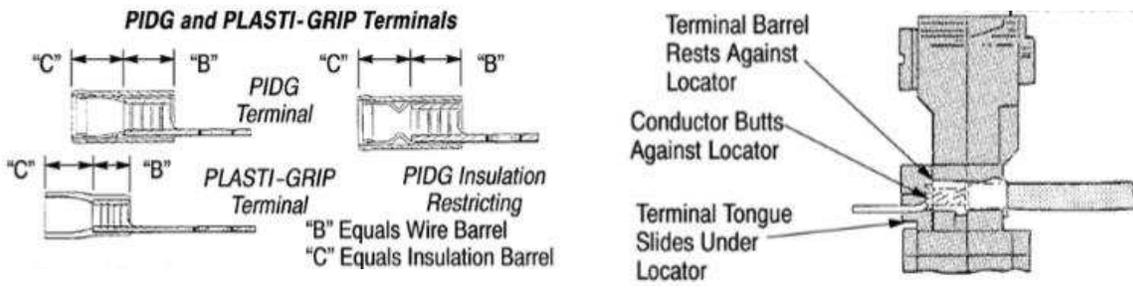
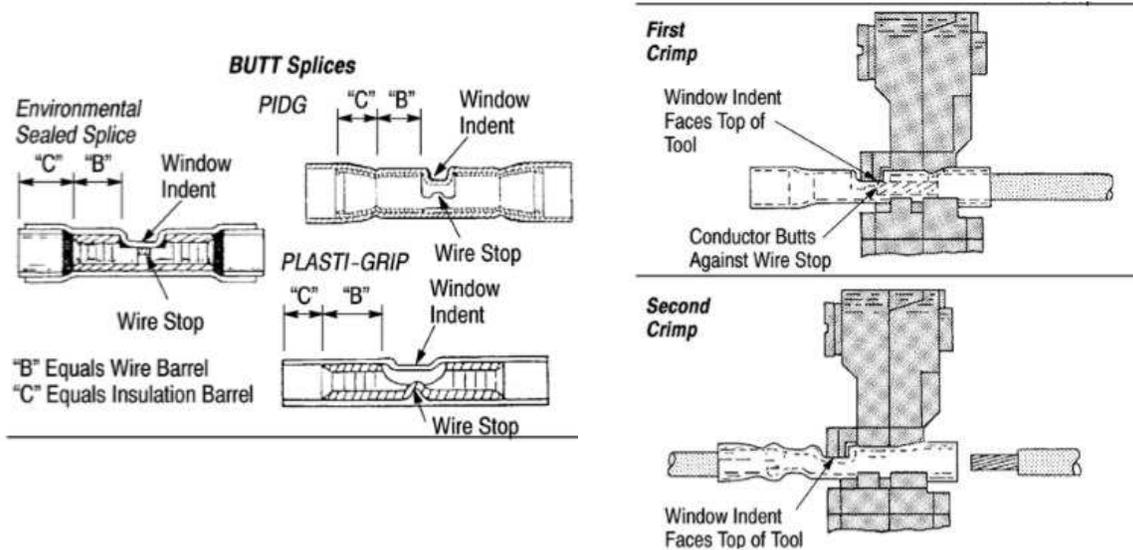

Figure 3
Figure 4
3. Place terminal in crimping dies so that terminal tongue slides under locator (see Figure 3).
4. Raise locator and place splice under locator as shown in Figure 4 (splice window indent faces top of tool).
To properly position pre-insulated sealed splice, apply and maintain pressure against end of splice until Step 5 is completed. See Figure 4.
6. Insert stripped wire into terminal until conductor butts against locator (see Figure 3). Insert stripped wire into splice until conductor butts against splice wire stop (see Figure 4).
3. Insert UNSTRIPPED wire into ONLY the insulation barrel (see Figure 3 or Figure 4) of terminal or splice.